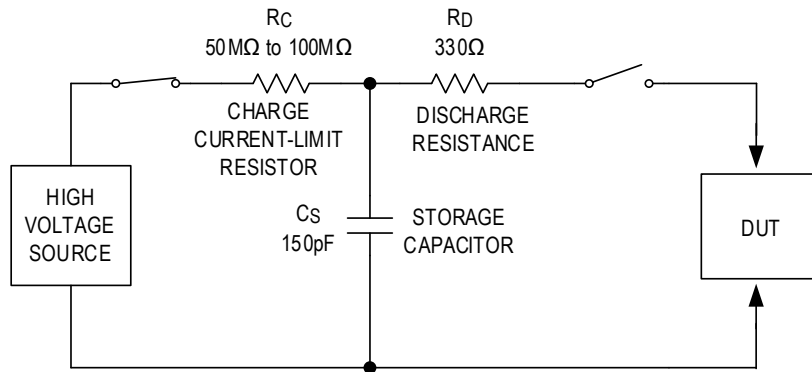
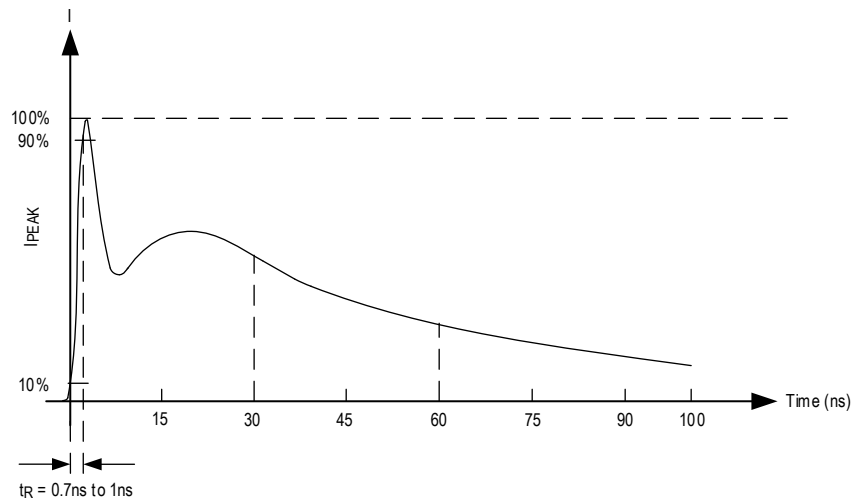

Figure 36. IEC 61000-4-2 ESD Test Model
Figure 37. IEC 61000-4-2 ESD Generator Current Waveform
- ESD test model shown in Figure 36, and ESD generator current waveform shown in Figure 37.